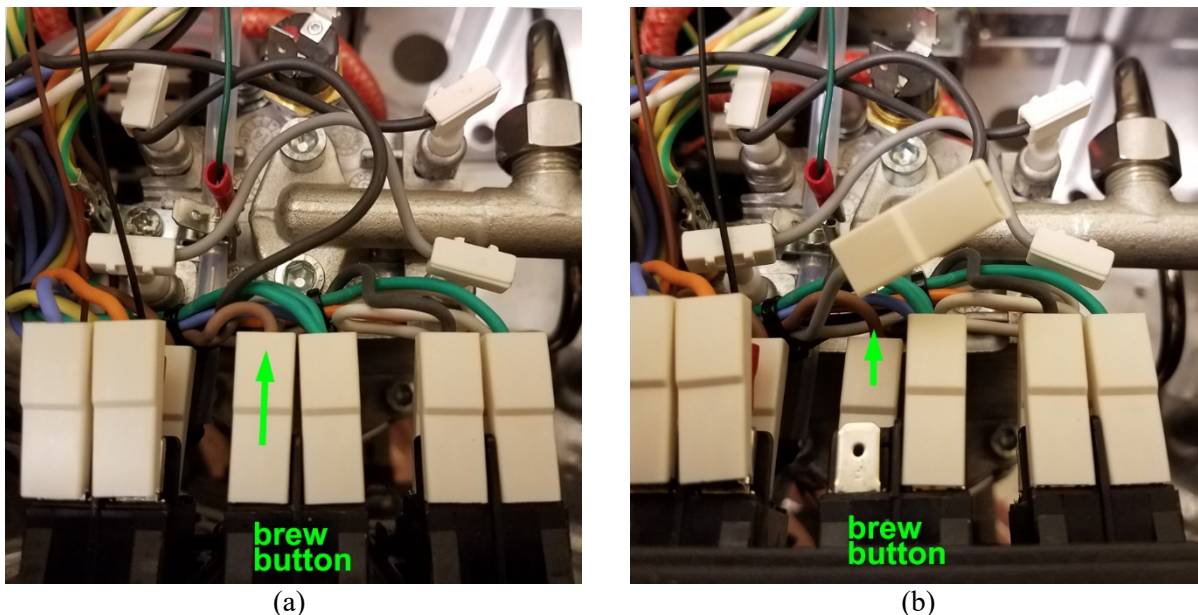

Figure 24. (a) The wires attached to the water-pump button. (b) Swap the brown wire pointed by the green arrow to the middle (pin #5) of the water-pump button.
- 1) **Swapping the brown wire and the gray wire on the brew button.** On the brew button, remove the brown wire (indicated by green arrow in Figure 24(a)) that is attached to pin #4 of the brew button and a gray wire is attached to the middle (pin #5 of the brew button). Please swap the brown wire to the middle pin as pointed by the green arrow in Figure 24(b). You can refer to Figure 26 (a) and (b) for how the wires should be attached before and after this step.